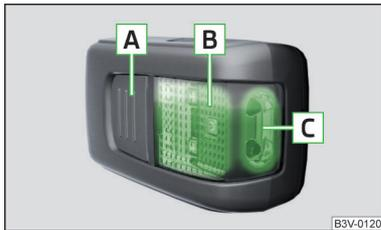

Fig. 123
Description of the light » Fig. 123
- › **To switch on** the removed light, press button **A** » Fig. 123. Pressing the light again will **switched it off**.
If the light is not switched off and is correctly inserted in the mount, the LED diodes in the front part of the light **C** » Fig. 123 are automatically switched off.